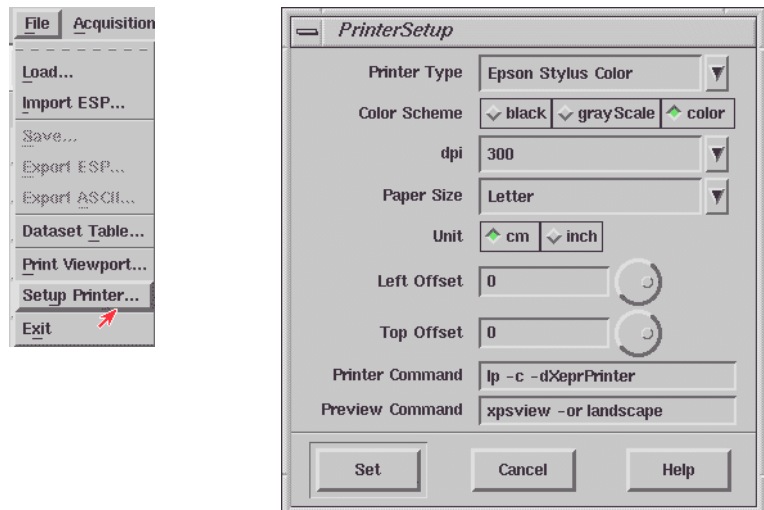

Figure 15-5 Setting up the printer.
4. **Set up the printer.** Click **File** in the menu bar and then **Setup Printer**. A dialog box appears. Click the arrow button next to the **Printer Type**. A drop-down list of printers will appear. Select the correct **Printer Type** for your printer. The **Printer Command** has been set by default as `lp -c -dXeprPrinter`, where `XeprPrinter` is the default name of the Xepr printer. Do not change this command unless you have changed the printer name. The **Preview Command** should be set to `xpsview -or landscape`. Now that the critical settings are selected, you can choose the other options which are available in the dialog box. Click **Set** to exit this dialog box. (See Figure 15-5.)